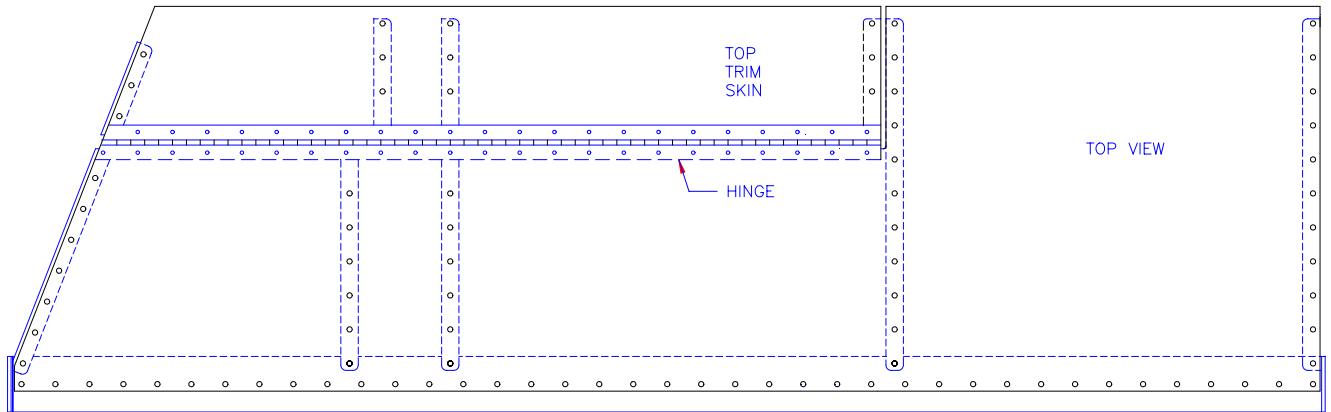

Figure 6.2.5
5) Cut hinge material to length, position and drill #30 holes as in Figure 6.2.5.